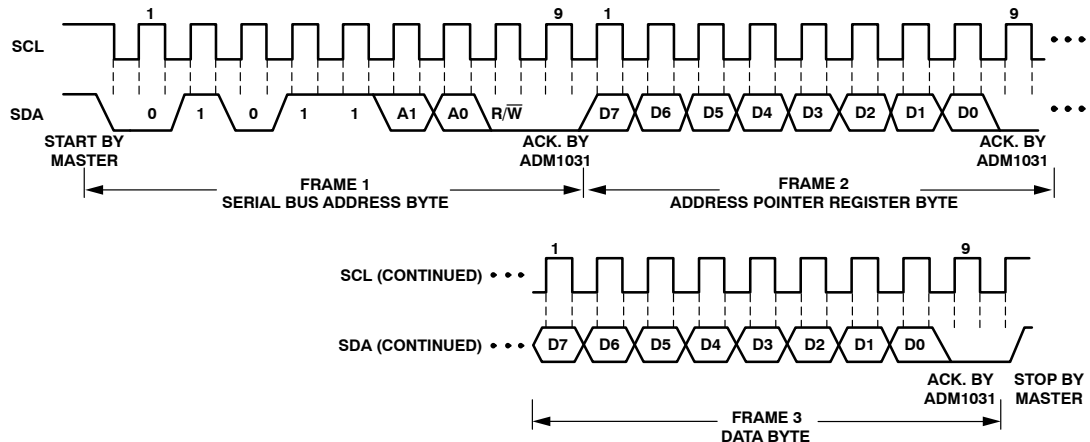
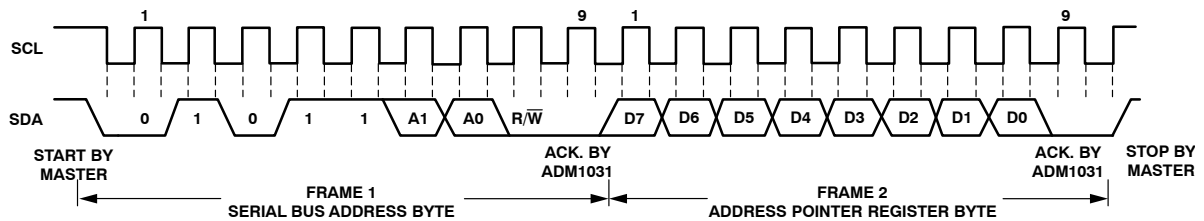
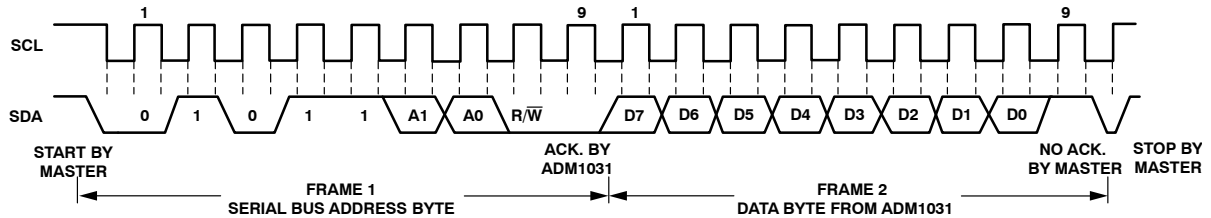

Figure 15. Writing a Register Address to the Address Pointer Register, then Writing Data to the Selected Register
Figure 16. Writing to the Address Pointer Register Only
Figure 17. Reading Data from a Previously Selected Register
This is illustrated in Figure 15. The device address is sent over the bus followed by R/W set to 0. This is followed by two data bytes. The first data byte is the address of the
1. If the ADM1031's address pointer register value is unknown or not the desired value, it is first necessary to set it to the correct value before data can be read from the desired data register. This is done by performing a write to the ADM1031 as before, but only the data byte containing the register address is sent, as data is not to be written to the register. This is shown in Figure 16. A read operation is then performed consisting of the serial bus address, R/W bit set to 1, followed by the data byte read from the data register. This is shown in Figure 17.
2. If the address pointer register is known to be already at the desired address, data can be read from the corresponding data register without first writing to the address pointer register, so Figure 16 can be omitted.
- In Figure 15, Figure 16, and Figure 17, the serial bus address is shown as the default value 01011(A1)(A0), where A1 and A0 are set by the three-state ADD pin.